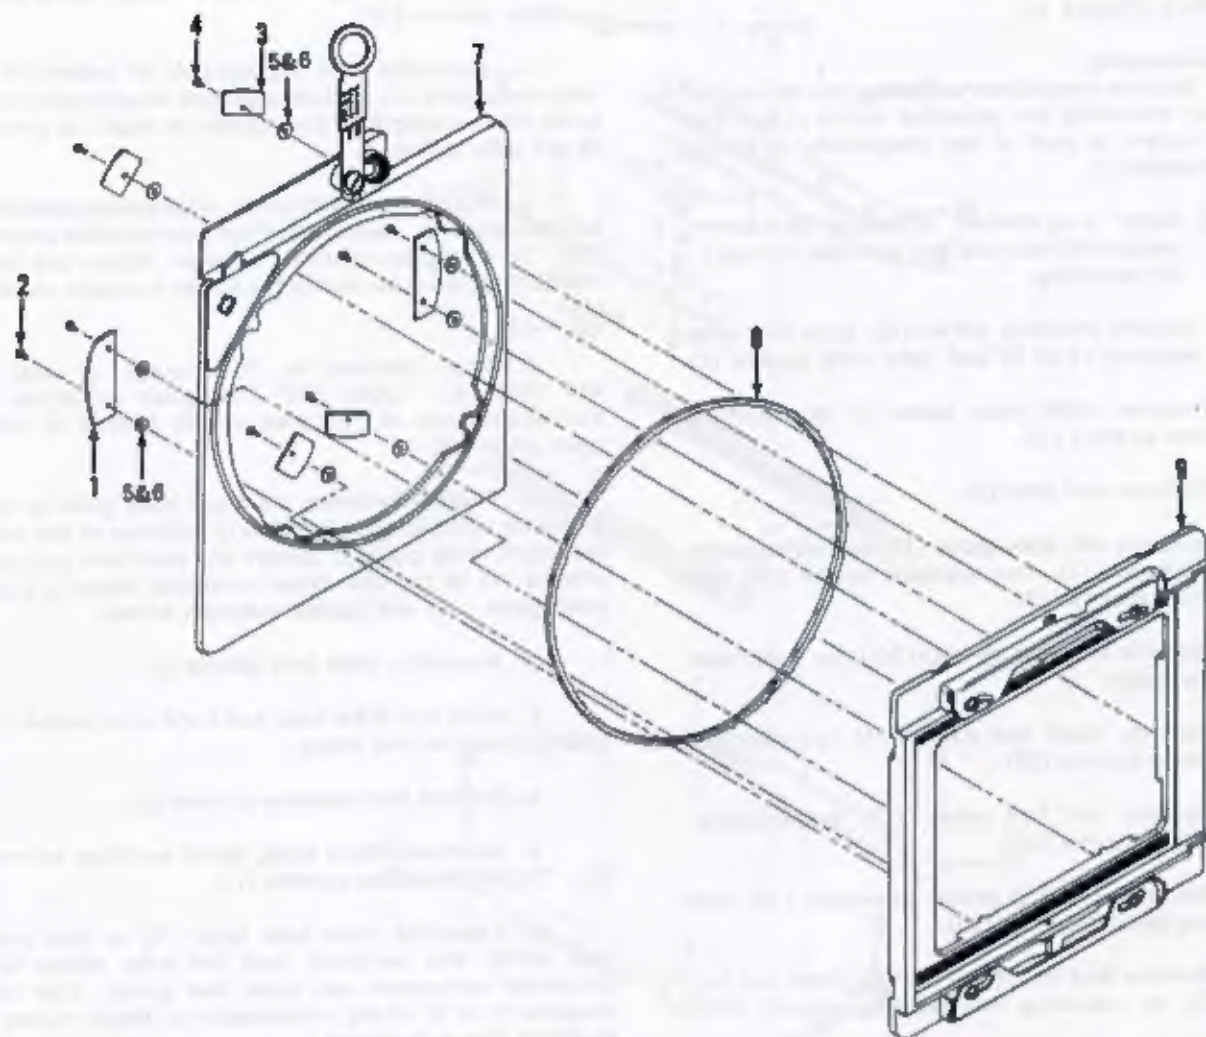
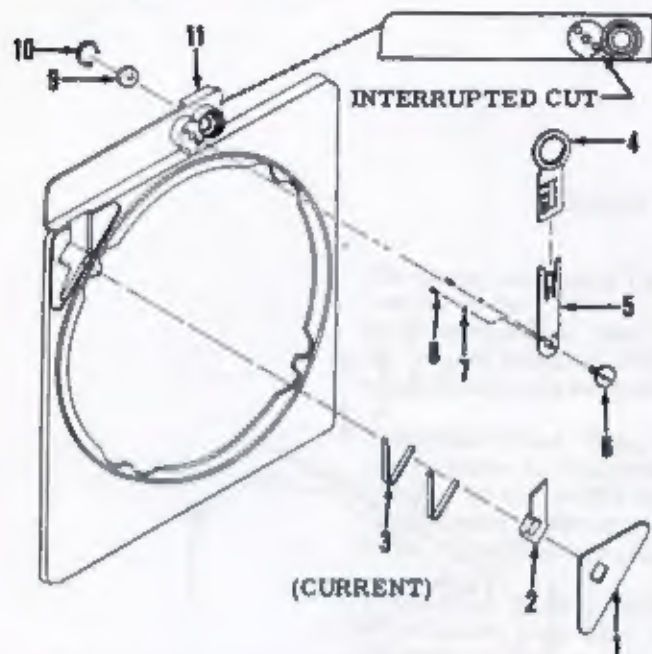
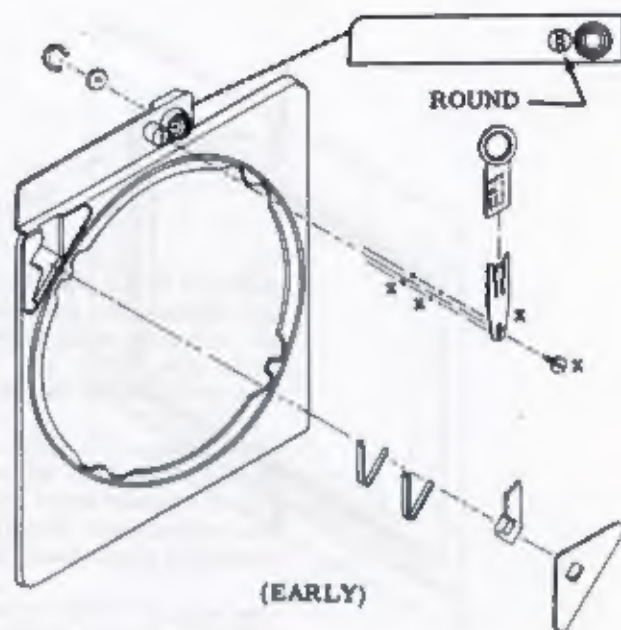

Figure 12. BACK ASSEMBLY
Figure 12A. STATIONARY FRAME COMPLETE
Figure 12B. STATIONARY FRAME COMPLETE
X. BACK ASSEMBLY - DISASSEMBLY AND REASSEMBLY (Figure 12)**1. Disassembly**
a. Remove four machine screws (2), four machine screws (4), two retainers (1), four retainers (3), washers (5 & 6, used as required), and stationary frame complete (7). If disassembly of the stationary frame complete is necessary, see Par. X.1.
b. Remove revolving ring (8) from grooved track of the revolving frame complete (9). If disassembly of the revolving frame complete is necessary, see Par. X.2.
NOTE: A change has been made on the stationary frame as illustrated in figures 12, 12A & 12B. Disassembly and reassembly procedures remain the same. Items marked x in figure 12B are not interchangeable with corresponding items in figure 12A. When ordering replacement parts, refer to the correct parts list.
X.1. STATIONARY FRAME COMPLETE - DISASSEMBLY AND REASSEMBLY (Figure 12A)
a. Remove cemented release button cover (1). Remove release button (2) and two button springs (3) from cavity in stationary frame.
b. Remove peepsight assembly (4).
c. Remove peepsight carrier (5) by removing machine screw (6), two steel balls (7) and two carrier springs (8).
d. Remove rear window (9) from stationary frame assembly (11) by removing retaining ring (10).
a. Assemble rear window (9) and retaining ring (10) in stationary frame assembly (11).
b. Insert two carrier springs (8) into two small holes in boss of stationary frame for carrier peepsight mounting. Apply a light coat of Dow-Corning #44 Silicone grease to two steel balls (7) and place a ball over each carrier spring. Apply paraffin to two sides of peepsight carrier (5) and apply Neolube to underside of head of machine screw (6). Position peepsight carrier in place and secure with machine screw.
c. Assemble peepsight assembly (4) to peepsight carrier.
d. Assemble two button springs (3) in cavity of stationary frame. Apply a light coat of Dow-Corning #44 Silicone grease to release button (2) and position in place. Apply 3M 776 adhesive to area around cavity opening in stationary frame, keeping within .050 in. from edges of cavity. Assemble release button cover (1) and remove excess adhesive.